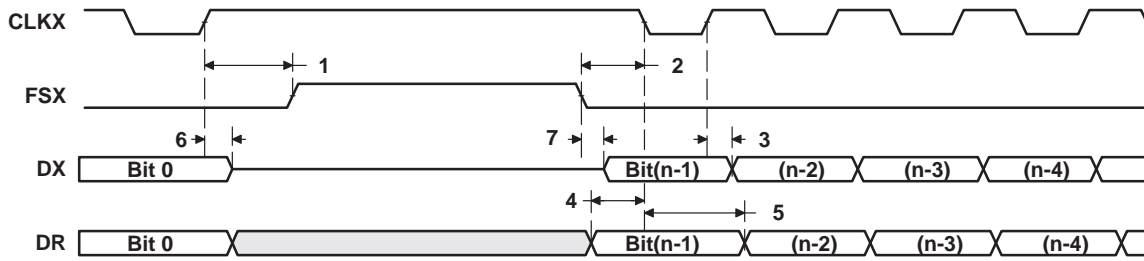

Figure 36. McBSP Timing as SPI Master or Slave: CLKSTP = 11b, CLKXP = 1
**timing requirements for McBSP as SPI master or slave: CLKSTP = 11b, CLKXP = 1†‡ (see Figure 36)**
**switching characteristics for McBSP as SPI master or slave: CLKSTP = 11b, CLKXP = 1†‡ (see Figure 36)**